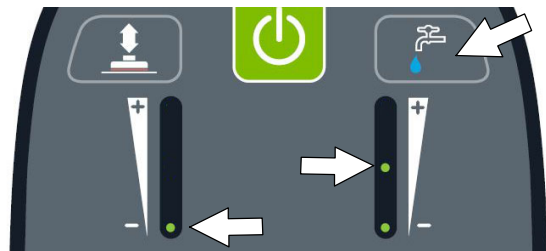

FIG. 164
5. If Lockout Mode 2 was selected, press the solution flow button then choose the desired maximum limits for the solution flow and the brush pressure settings (Figure 164).